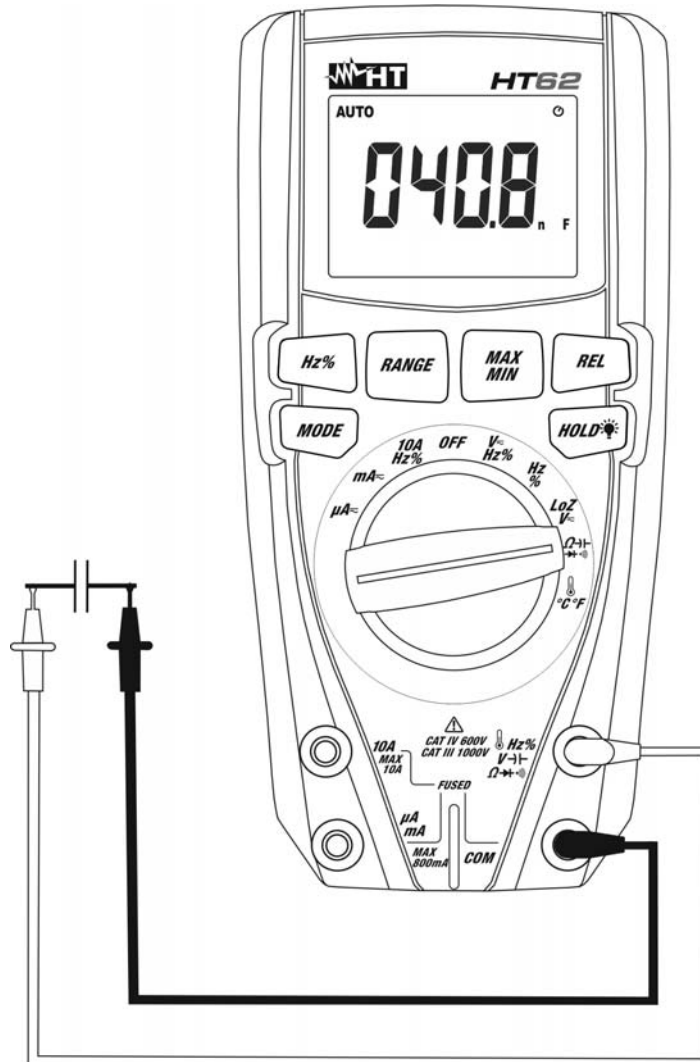

Fig. 8: Use of the instrument for Capacitance measurement
5. Position the leads at the ends of the capacitor to be tested, respecting, if necessary, the positive (red cable) and negative (black cable) polarity (see Fig. 8). The display shows the value of capacitance.